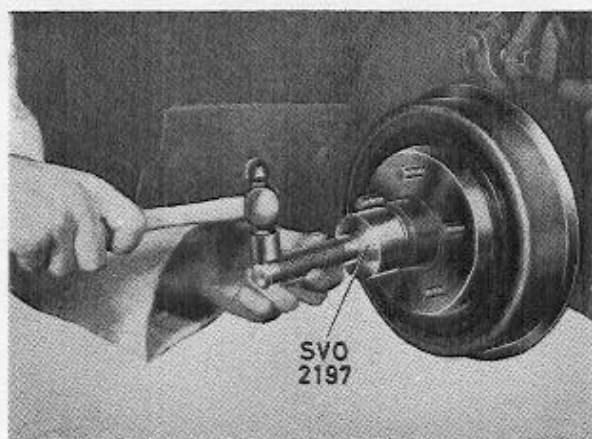
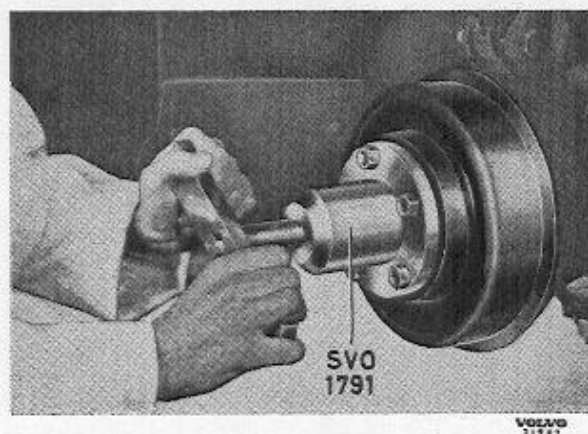
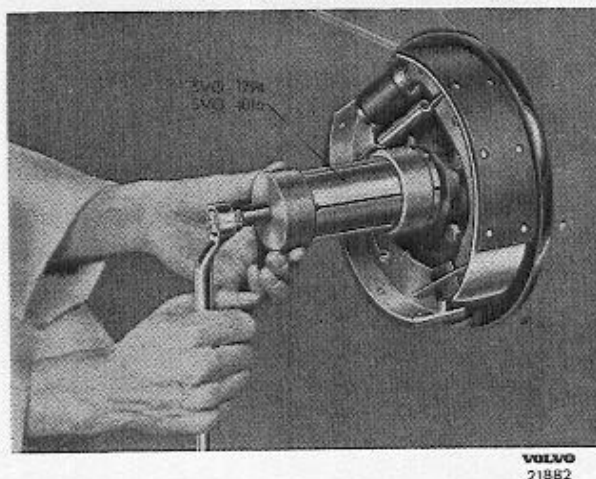

Fig. 6. Removing grease cap.
Fig. 7. Removing hub.
Fig. 8. Removing inner bearing.
3. Remove the grease cap with tool SVO 2197 (Fig. 6). Remove the cotter pin and the castellated nut. Pull off the hub with puller SVO 1791 (SVO 1446 A) as shown in fig. 7.
5. Remove the inner ring with puller SVO 1794 (SVO 4016) if required (fig. 8).
3. Remove grease cap with tool 2197 (fig. 6), loosen castellated nut and draw off front hub. Use puller SVO 1791 fig. 7 (SVO 1446 A). Remove inner ring if required (fig. 8).